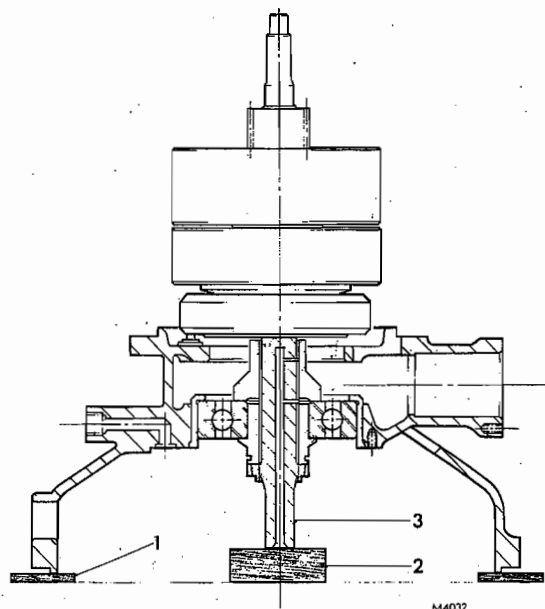

FIG. 21 THE ASSEMBLY SUPPORTED ON SUITABLE BLOCKS
11. Fit the seal ring (102), washer and ring nut (100). Tighten the nut enough to take up any end-float.
**Important:** The input shaft must be supported as shown in Fig. 21. It is advisable to first take the weight on the shaft and steady the unit by inserting packing pieces around the rim of the clutch housing.